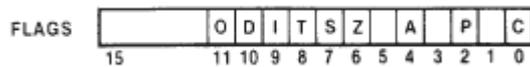

Figure 12-4 : Flag register
- The interrupt flag is set & cleared by the STI & CLI instructions respectively (Figure 12-4).